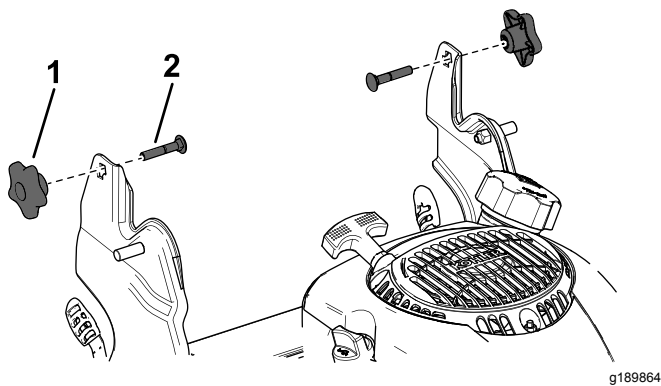

Figure 3
1. Remove and save the 2 handle knobs and 2 carriage bolts from the handle brackets (Figure 3).